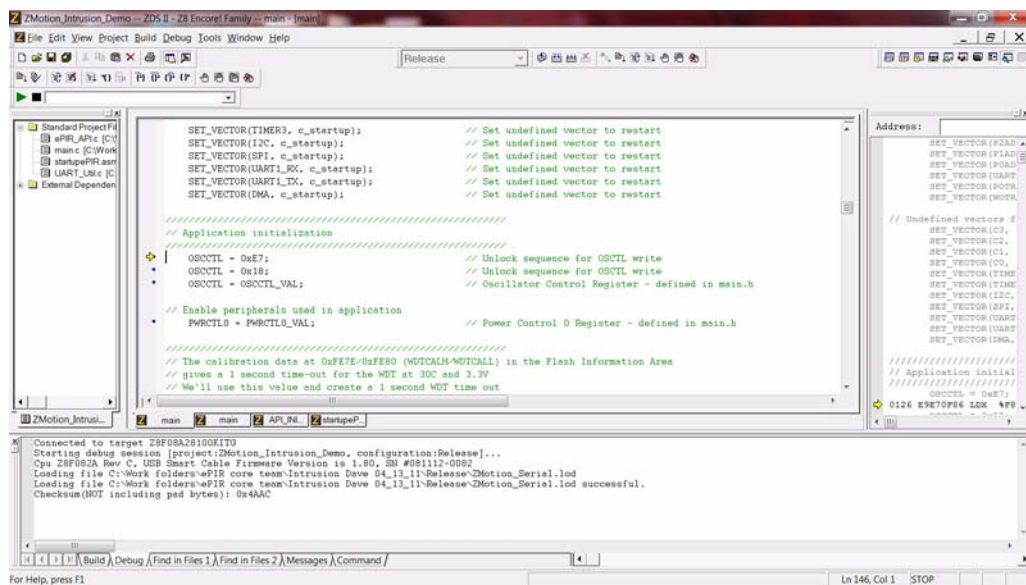

Figure 7. ZDSII's Debug Output Window for the ZMOTION\_Basic project
6. An information notice may appear, indicating that the silicon is not the latest version. This occurrence is normal and is not an issue. Click **OK** to continue. You should see a message in the Debug Output Window indicating that the load was successful, as shown in Figure 7.